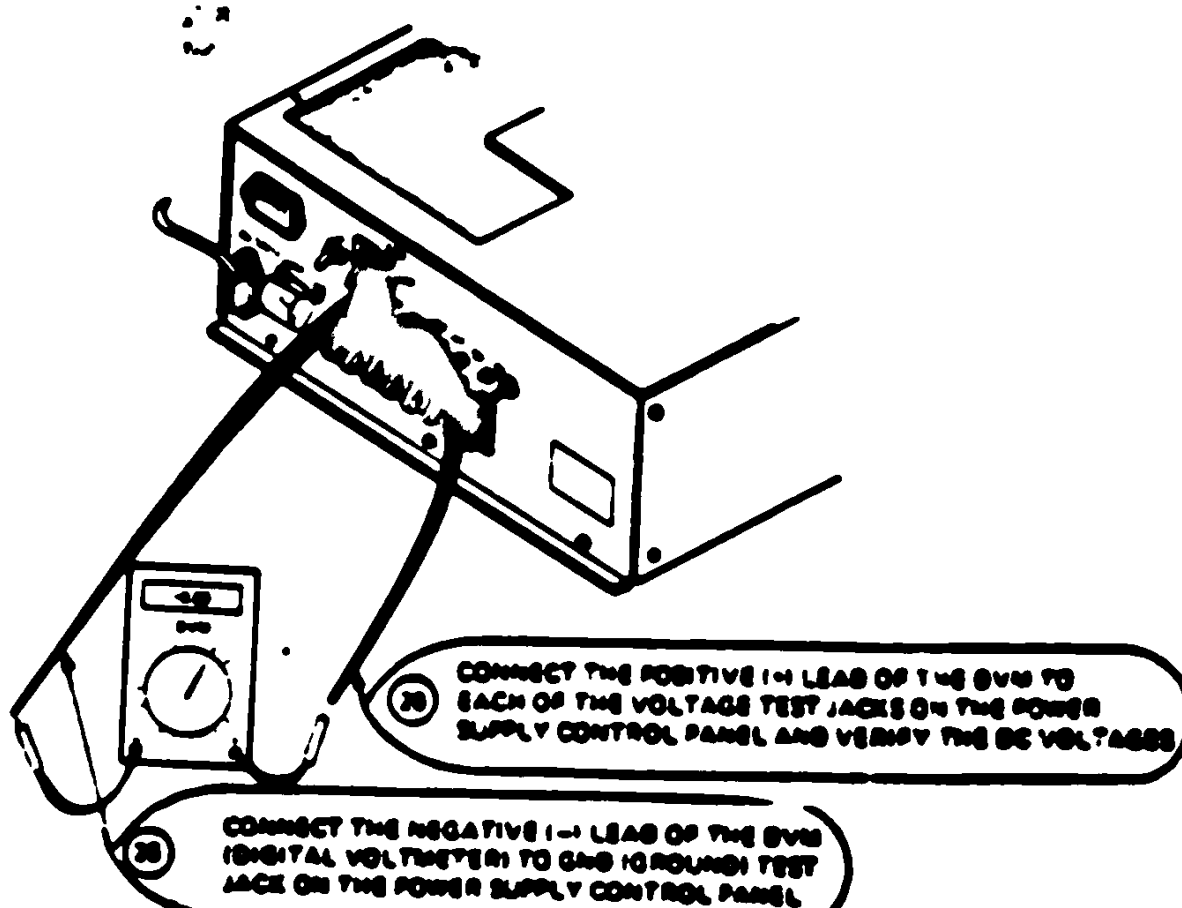

FIGURE 12 VDC BIAS POWER SUPPLY CONTROL PANEL
25. Connect the negative (-) lead of a DVM (Digital Voltmeter) to the GND (ground) test jack on the power supply control panel and verify the following DC voltages. (See Figure 12)
26. Connect the positive (+) lead of the DVM to each of the voltage test jacks on the power supply control panel and verify the following DC voltages. (See Figure 12)